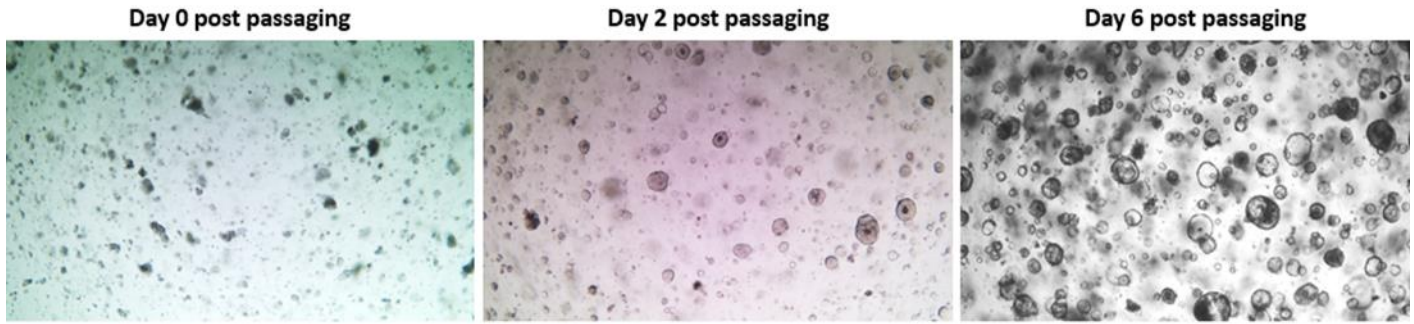

Figure 4: Morphology of LPOs passaged using the trypsinization method at **A.** Day 0, **B.** Day 2 and **C.** Day 6.
13. Monitor the domes under a microscope and capture images on Days 0, 2, 4, 6 and the day of passaging for documentation. Figure 4 shows the morphology of LPOs on various days following passaging via the trypsinization method.
It is recommended to cryopreserve LPOs during their exponential growth phase, typically around Days 6-7 following passaging using the trypsinization method. Figure 4 (C) illustrate the organoid density and size of the LPOs at the time of cryopreservation for biobanking.